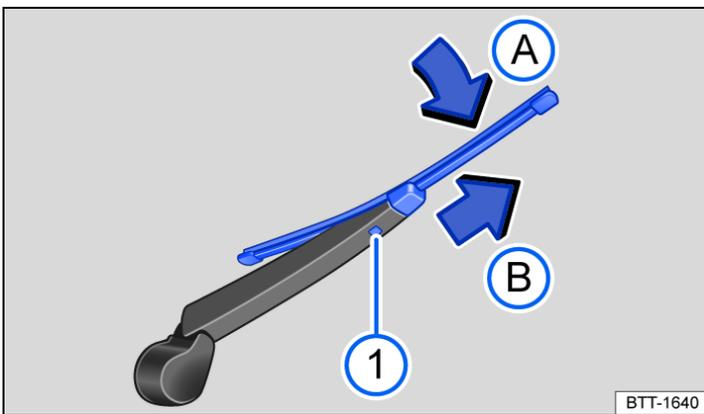

Fig. 2 Changing the wiper blade for the rear window.
① Wiper blade release button.
3. Press and hold the release button → Fig. 2 ①.
4. Tilt the wiper blade in the direction of the wiper arm → Fig. 2 ② and pull it off in the direction of the arrow ③ at the same time. You may need to use some force to do this.
5. Insert a new wiper blade with the same length and design onto the wiper arm against the direction of the arrow. Push it on until it engages → Fig. 2 ④. The wiper blade must be in folded-down position to do this → Fig. 2 ⑤.